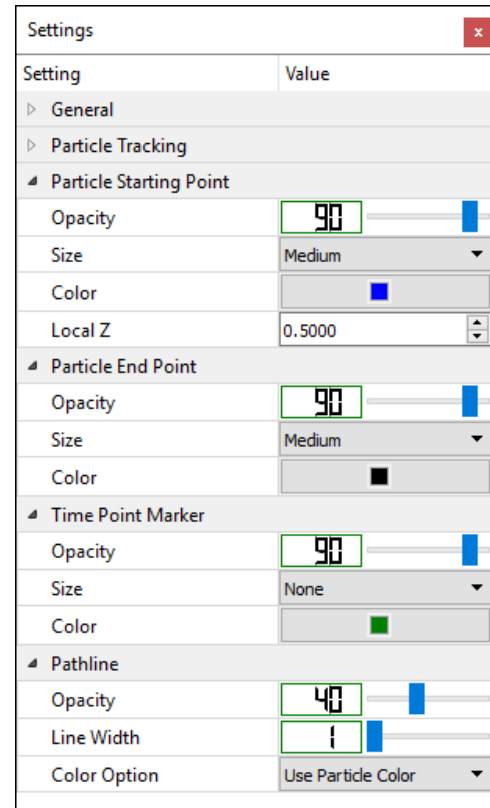

Figure 162. The Particle Starting Point, Particle End Point, Time Point Marker, and Pathline groups of the Settings window for MODPATH
- Click the mouse at the desire location on the map to add a particle. The vertical coordinate of the particle is defined by $z = z_{bot} + z_L \cdot (z_{top} - z_{bot})$, where z_{bot} and z_{top} are the elevations of layer bottom and top, respectively, and z_L is the local vertical coordinate defined by Local Z (see Figure 162) in the settings window.
3. Particle Starting Point (Figure 162)
4. Particle End Point (Figure 162): particle end points are displayed as diamonds on the map viewer, and they represent the particle stop locations.
5. Time Point Marker (Figure 162)
6. Pathline (Figure 162)